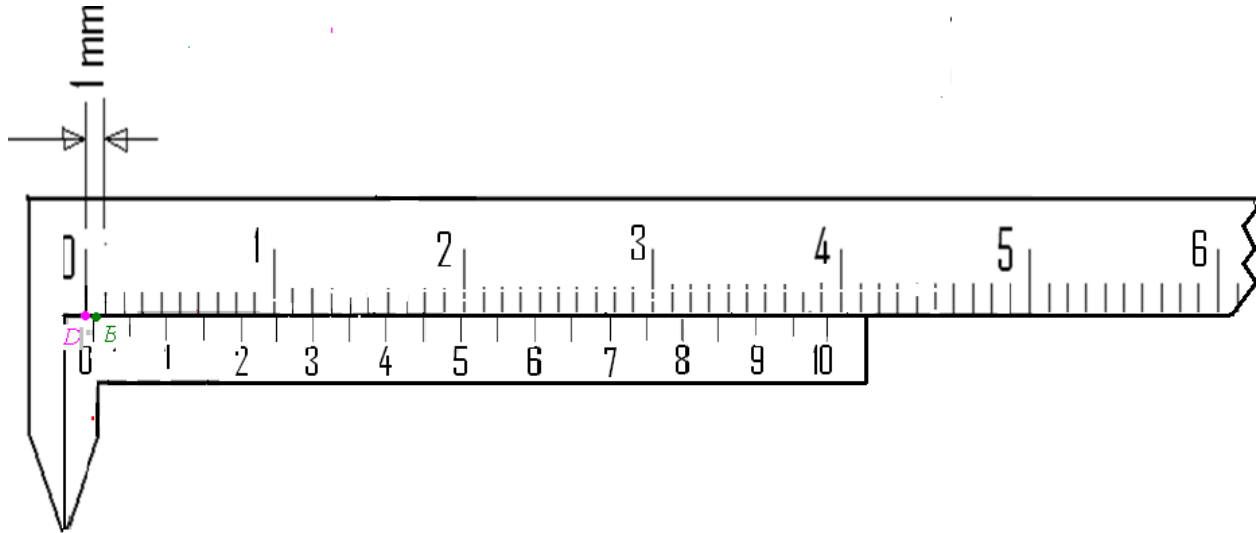

Figure 4: A slide calipers with mechanical error, where 0 of Vernier scale lies at right of the 0 or main scale.
In figure 4 we see the 0 of Vernier scale (B) lies at left of the 0 of main scale (D). We have to subtract this distance BD from the measured length of a body to correct it.